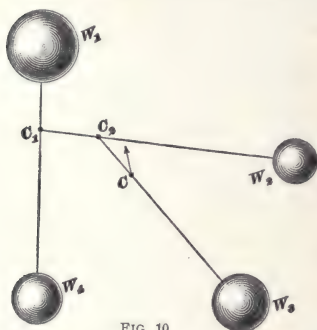

FIG. 10.
**Rule 11.**—Find the center of gravity of two of the bodies, as  $W_1$  and  $W_2$ , in Fig. 10. Assume that the weight of both bodies is concentrated at  $C_1$ , and find the center of gravity of this combined weight at  $C_1$  and the weight of  $W_3$ . Let it be at  $C_2$ ; then find the center of gravity of the combined weights of  $W_1$ ,  $W_4$ ,  $W_3$  (concentrated at